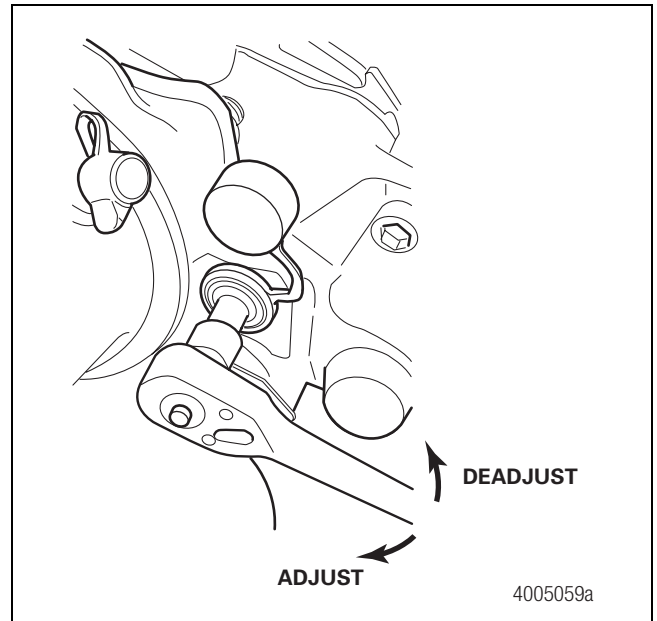
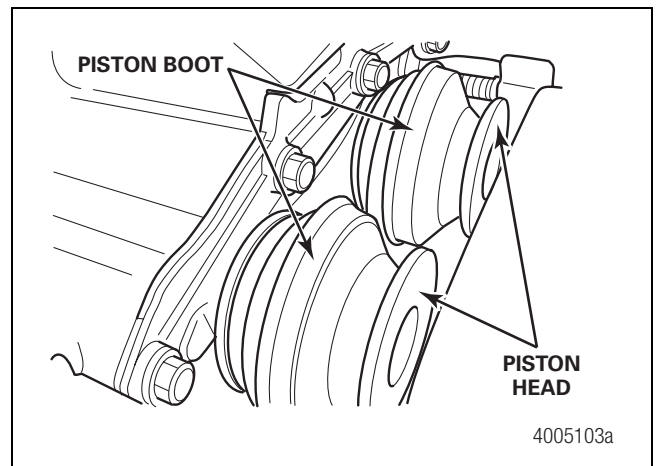

Figure 5.8
Figure 5.9
3. Use a 10 mm wrench to rotate the manual adjuster stem **CLOCKWISE** until the piston assemblies are extended approximately two-inches (50 mm). Figure 5.8 and Figure 5.9.